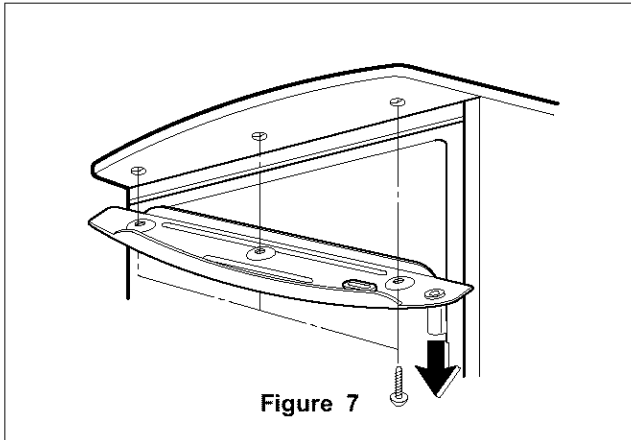

Figure 7
1. Loosen 3 screws holding an upper hinge to separate the door body. (Figure 7)